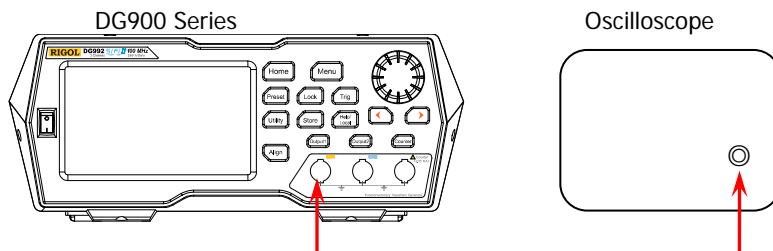

Figure 2-5 Connect DG900 and the Oscilloscope
1. Make sure that the environment temperature is between 18°C and 28°C and DG900 has been warmed up for at least 30 minutes. Connect the channel output terminal (take CH1 as an example; the test method is also applicable to CH2) of DG900 with the signal input terminal of the oscilloscope using a dual-BNC connecting cable as shown in Figure 2-5.
- Make sure that the environment temperature is between 18°C and 28°C and DG900 has been warmed up for at least 30 minutes. Connect the channel output terminal (take CH1 as an example; the test method is also applicable to CH2) of DG900 with the signal input terminal of the oscilloscope using a dual-BNC connecting cable as shown in Figure 2-5.